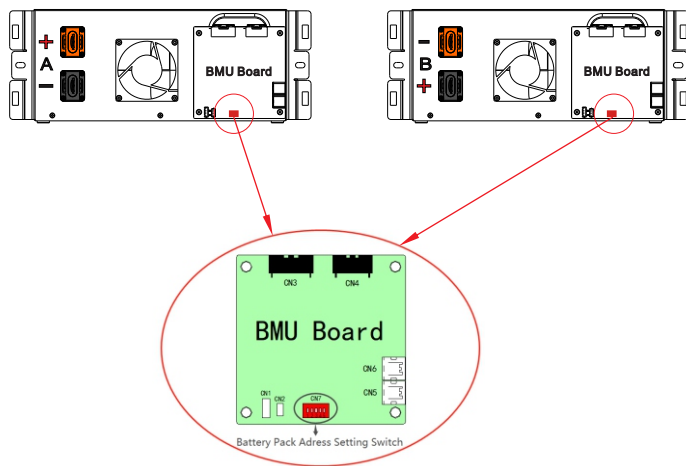

Figure-11 Diagram of battery pack and BMU board
3). The address of the battery box is set according to the dial switch (CN7) on the BMU board, as shown in Figure-11 , the dial switch is set according to the binary address, from 1 to 5 switch represents high to low, for example: only open the first switch, close 2 to 5 switch, the set address is 16.